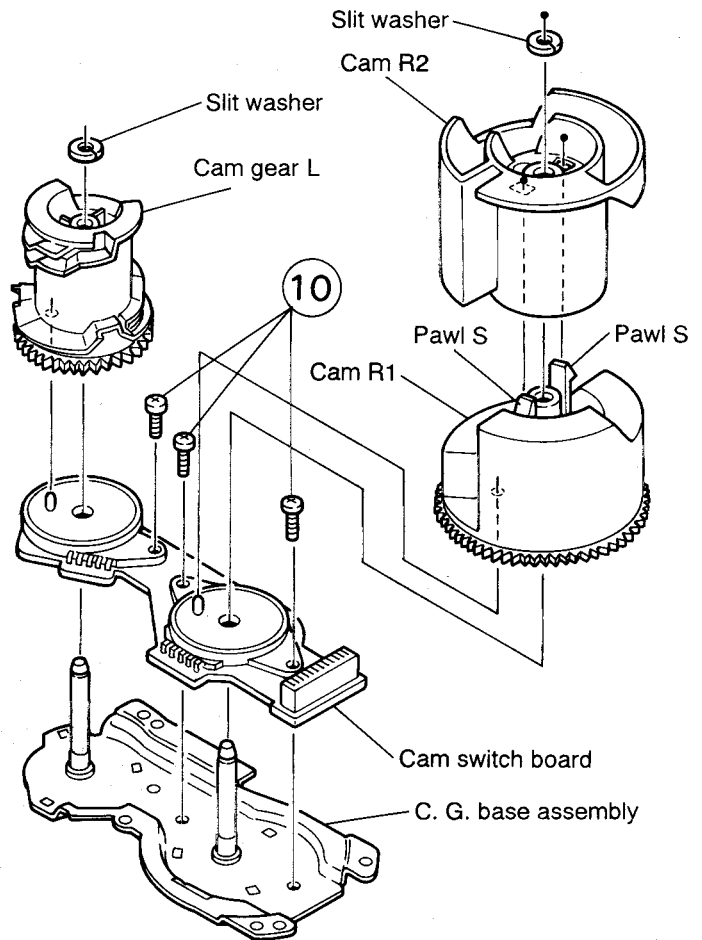

Fig. 5-52
■ Removing the cams R1/R2 assembly and cam gear L (See Fig. 5-52)
2. By removing the two pawls (S) fixing the cam R1, separate R2 from R1.
(See Figs. 5-52 and 5-53)